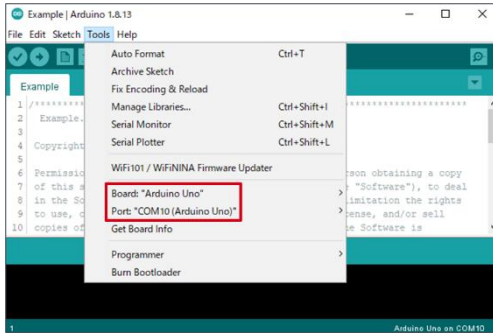

Figure 4. Board and Port Setting
1. Select [Tools]. Set Board to “Arduino Uno” and Port to “COMxx (Arduino Uno)”^{*3}. (Figure 4)